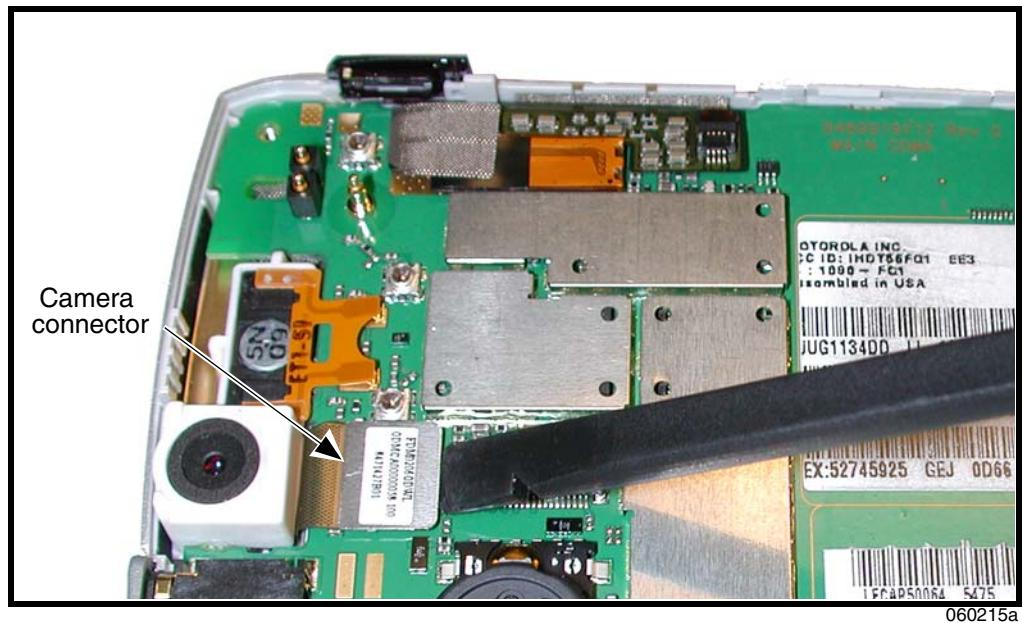

Figure 13. Removing the Camera Assembly Connector
2. Insert the flat end of the disassembly tool under the edge of the camera connector and rotate the tool to unseat the camera connector from the socket (see Figure 13),